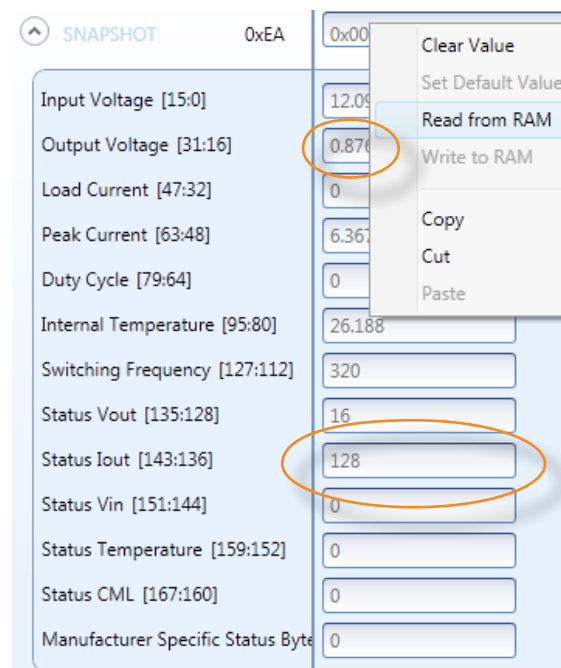

Figure 7. Read of SNAPSHOT command after restoring from NVM.
4. The snapshot data we are looking for is now in RAM and we can read the SNAPSHOT command to find out status and parameters from the fault moment, see Figure 7. For example we can see a fault indication is set in *Status Iout* field and that the output voltage had dropped to 0.87V when snapshot was captured.